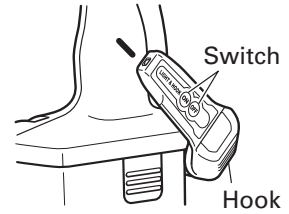

Fig. 9
- (2) The direction of the light can be adjusted within the range of hook positions 1 - 5. (Fig. 9)